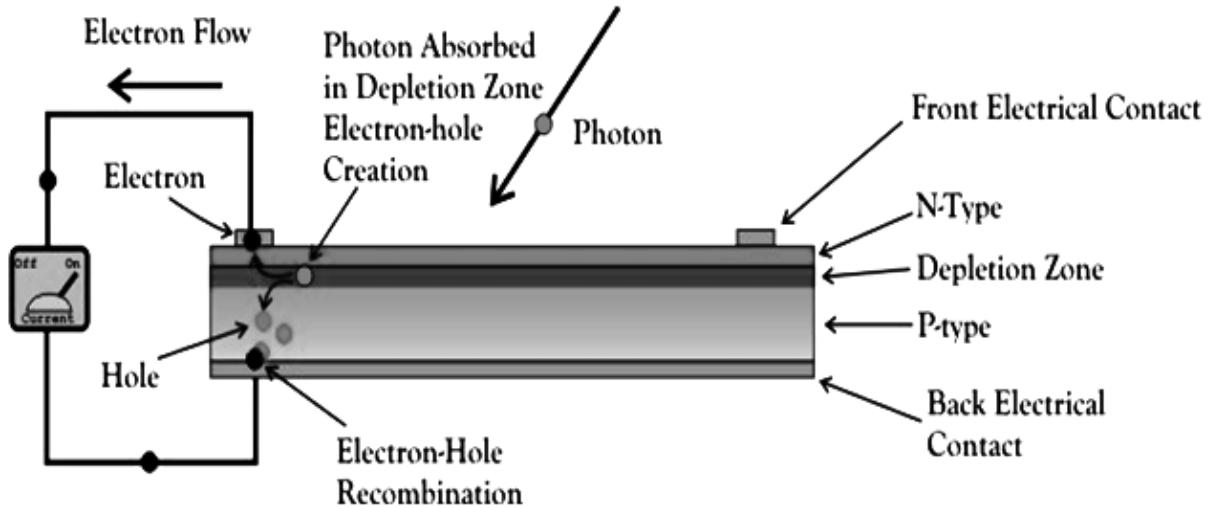

Figure 1.14
1.8.1 Construction: A solar cell is basically a p-n junction diode, although its construction is little bit different from conventional p-n junction diodes (Figure 1.14). A very thin layer of p-type semiconductor is grown on a relatively thicker n-type semiconductor. After that a few finer electrodes on the top of the p-type semiconductor layer are applied.